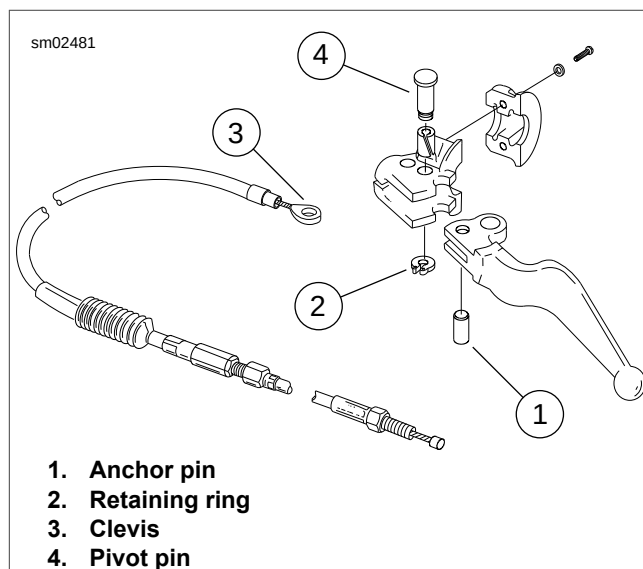
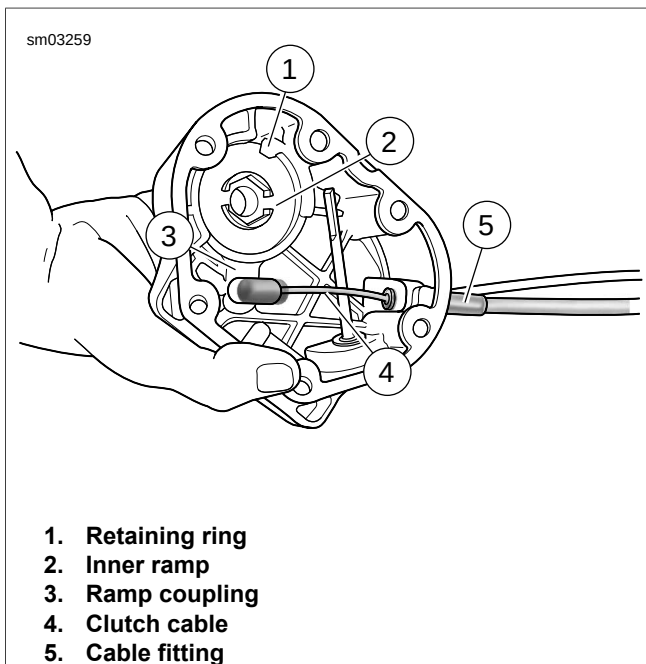

Figure 2-87. Clutch Cable Installation
Figure 2-88. Clutch Cable Connection
2. See Figure 2-87. Remove the retaining ring (2) and pivot pin (4). Remove the clutch cable anchor pin (1) from the hand lever.
4. See Figure 2-88. Note position of retaining ring (1) opening. Retaining ring opening must be positioned in approximately the same location during assembly. Remove retaining ring.
5. Pull inner ramp (2) and ramp coupling (3) out of side cover. Hold inner and outer ramps together to keep balls from falling free.
6. Rotate the inner ramp to a position which will allow the coupling to be disconnected from the inner ramp lever arm. Disconnect coupling from inner ramp. Disconnect cable end (4) from coupling.
7. Back out threaded cable fitting (5) from side cover.
1. See Figure 2-87. Insert anchor pin (1) through handle and clutch cable clevis (3).
2. Place handle in bracket and install pivot pin (4) and retaining ring (2).
4. See Figure 2-88. Install **new** O-ring on end of clutch cable threads. Apply a drop of LOCTITE 243 MEDIUM STRENGTH THREADLOCKER AND SEALANT (blue) to clutch cable fitting and screw fitting into clutch release cover. Do not tighten at this time.
5. Connect cable end to ramp coupling (3). Rotate ramps for best access and install coupling on inner ramp (2). Place ramp assembly in position in side cover.